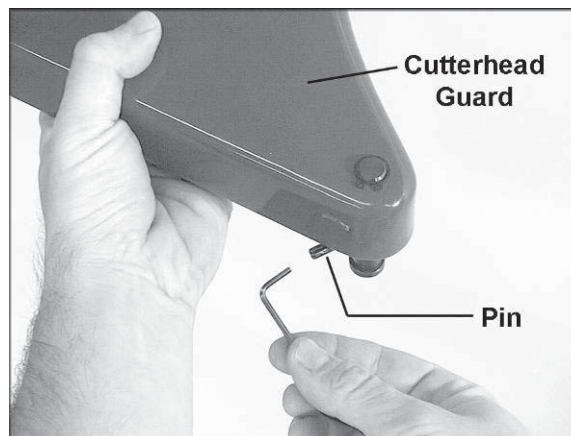

Figure 4
1. Insert a small hex wrench, or similar object, into the pin on the guard tension mechanism (Figure 4).